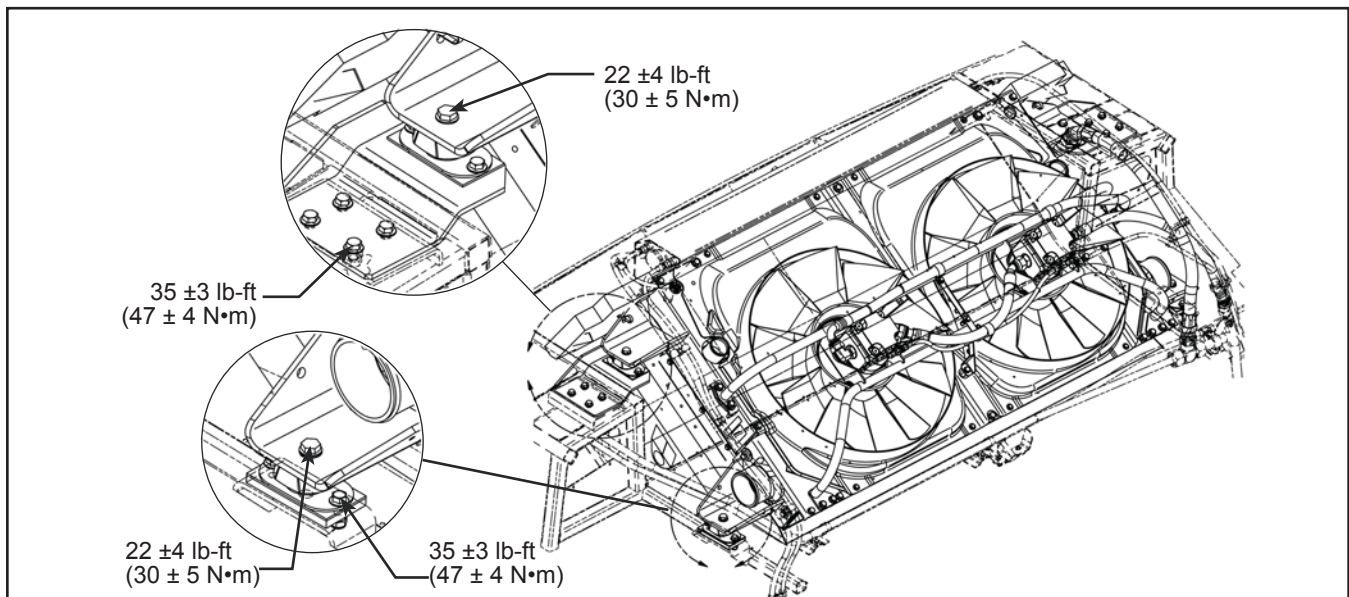

Figure 12 - Radiator Installation and Torque Value
- 1.29. Repeat the tightening sequence of step 1.26 by applying a tightening torque of 35 ft-lb (47N•m) on the isolator bolts. See Figure 12.
Radiator mounting support holes and isolators might not align correctly. To obtain proper alignment, loosen the isolator anchor bolts and move the isolator in such a way to line up with the mounting support holes. Torque the isolator anchor bolts to 35 ± 3 lb-ft (47 ± 4 N•m). See Figure 12.
- 1.41. Apply the torque specified in Figure 12.